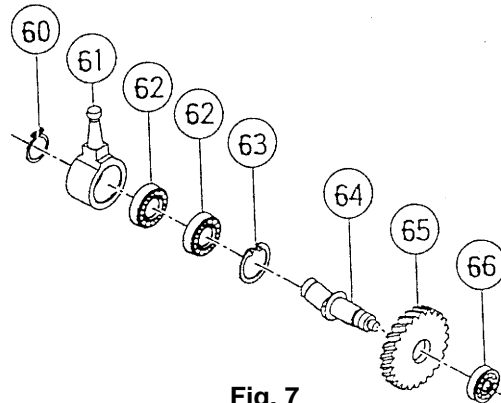

Fig. 7
(5) Disassembly of the Second Shaft (A) [64] section (Fig. 7)